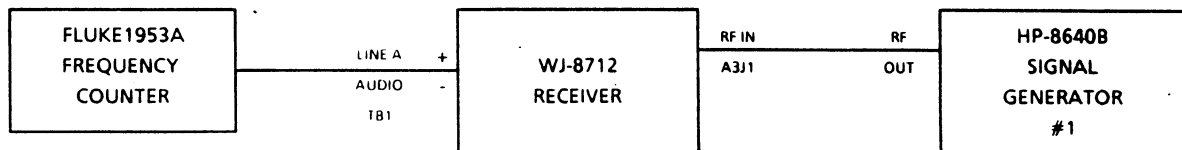

Figure 7-3. Fine Tuning Accuracy Performance Test Equipment Connection
1. Connect the WJ-8712 Receiver and test equipment as illustrated in **Figure 7-3**.